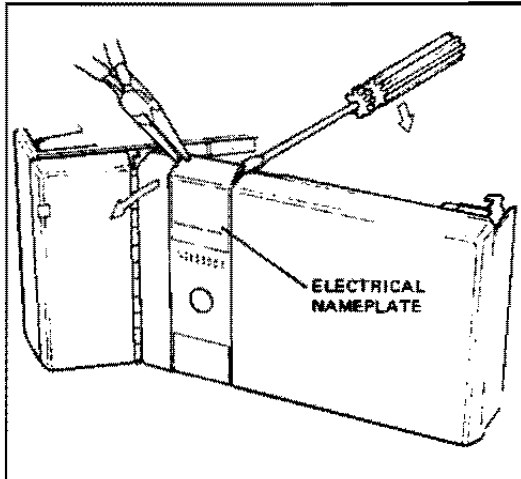

FIG. 4-5 FREEING THE ELECTRICAL NAMEPLATE
- c. Remove the electrical nameplate: Carefully pry one edge of the nameplate loose using a fine blade screwdriver. Peel the nameplate free of the rear door using pliers (Figure 4-5).